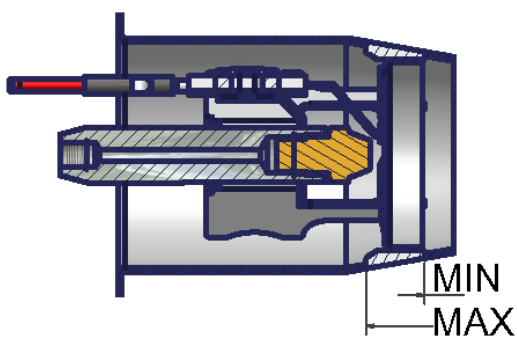
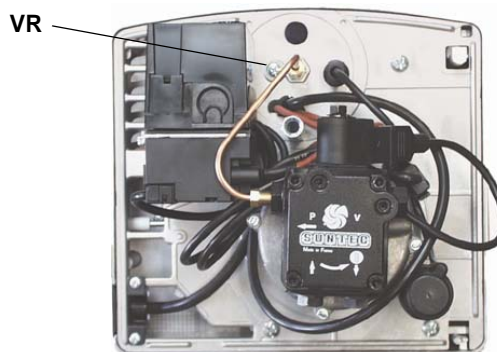

Fig. 22
Fig. 23
The burner is set in the factory with the combustion head in the "MAX" position, corresponding to the maximum power (combustion head all-forward). To operate the burner at a lowest strenght, progressively shift back the combustion head, toward the "MIN" position, rotating the VR screw clockwise (Fig. 23).
- 1 Hang the plate in one of the ways shown in Fig. 22 and Fig. 23 in order to facilitate maintenance operations.
**CAUTION:** the electrodes (E in Fig. 23) must be placed on the combustion head side.
**NOTE:** while reassembling the component plate, be careful that the ari damper pin enter correctly into the slot B (see Fig. 23).